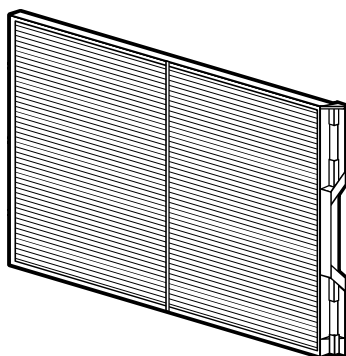
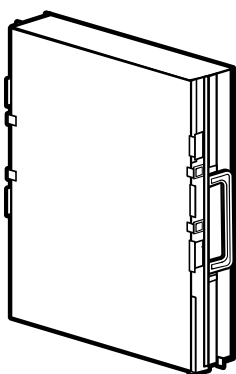

Figure 31 Pre-Filter
Figure 32 Collection Cells
5. Remove the PRE-FILTER (Figure 31) and/or the COLLECTION CELLS (Figure 32) from the air cleaner.
The clean/dirty LED light bar indicator will illuminate as the system cleans the air. The LED lights will progress from green to yellow and then to red. When the last red indicator is flashing, it is time to clean the COLLECTION CELLS (see Figure 31). The air cleaner is factory set to notify the home owner to clean the COLLECTION CELLS every six months [31 weeks] of actual run time of the air cleaner. This notification can be changed by the installer/home owner to 2 months, 4 months, 6 months, or 9 months [10, 20, 31, or 46 weeks] depending on the conditions in the home (pets, smokers, etc.). Please see “SET-UP MODE” (Page 13) to change the factory settings.